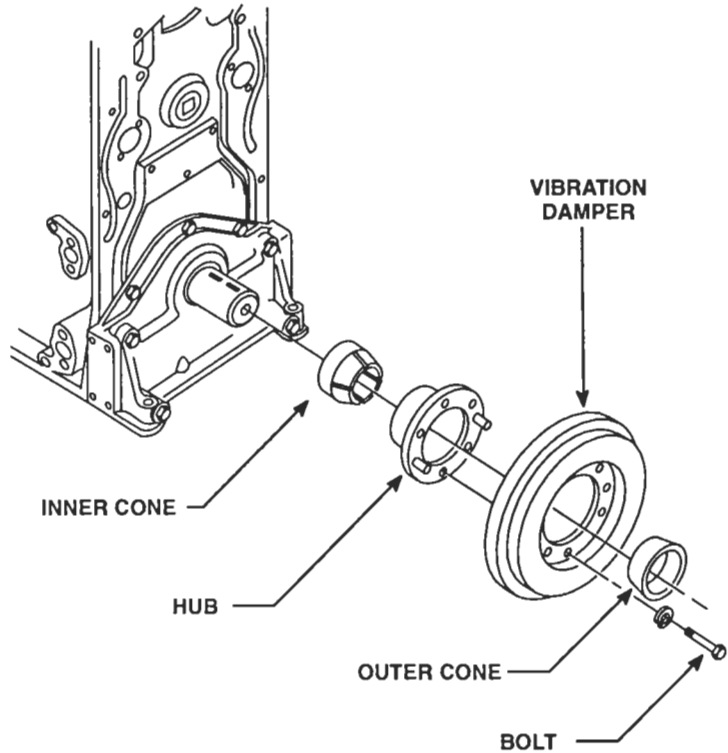

Figure 3. Double Vibration Damper (Rubber Type)
4. Reinstall the pulley crankshaft bolt and install a puller to loosen the outer cone wedge between the crankshaft and the damper hub (Figure 3.) After loosening the cone, it may be "fished" from the inner diameter of the damper hub with two thin shank screwdrivers.